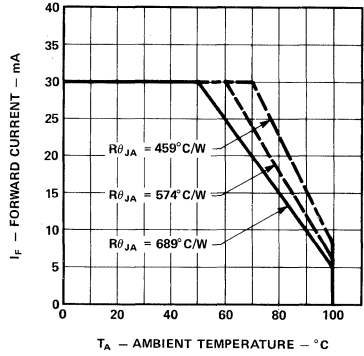

Figure 4. Maximum Forward DC Current vs. Ambient Temperature. Derating Based on T_J Max. = 110° C.
- Derate linearly as shown in Figure 4.